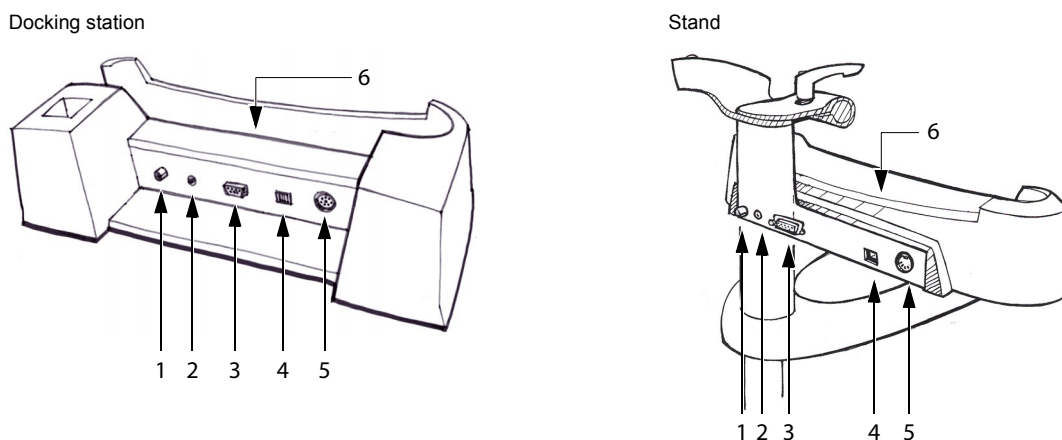

Figure 4.2 Connectors
- 2** Connect the DC line cord of the AC power adapter to the power connector on the docking station. (Figure 4.2 and Table 4.1)